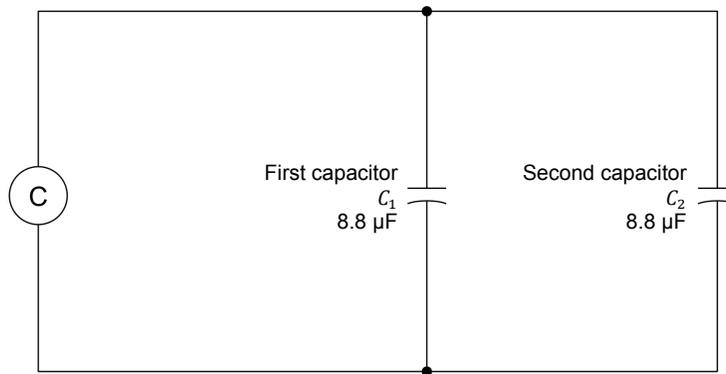

Figure 24. Circuit for measuring the capacitance of parallel capacitors.
37. Connect the circuit shown in Figure 24. Use both 8.8  $\mu\text{F}$  capacitors to implement the parallel capacitors.